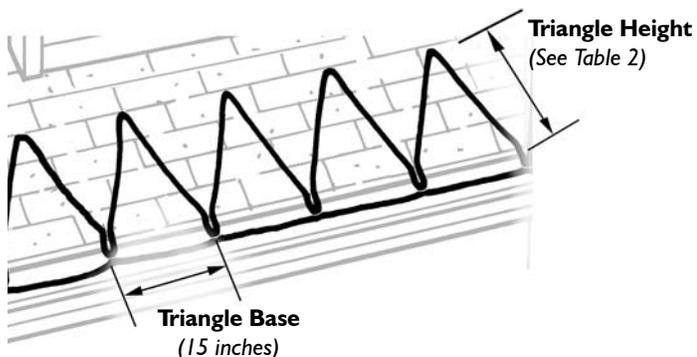

Figure 4. Triangle pattern along roofline
- Pattern for the roofline:** Cable laid along the roofline is arranged in a triangular pattern (see Figure 4). The cable must extend above the overhang into the warm section of the roof. To determine the height of the triangles, measure the depth of the overhang. The triangle heights are measured by the number of shingle rows from the roof edge (based on the standard 5½ inch tab shingles). Using Table 2, determine the height of each triangle. Using this method, the triangles will extend at least one shingle row (5½ inches) into the warm roof area.